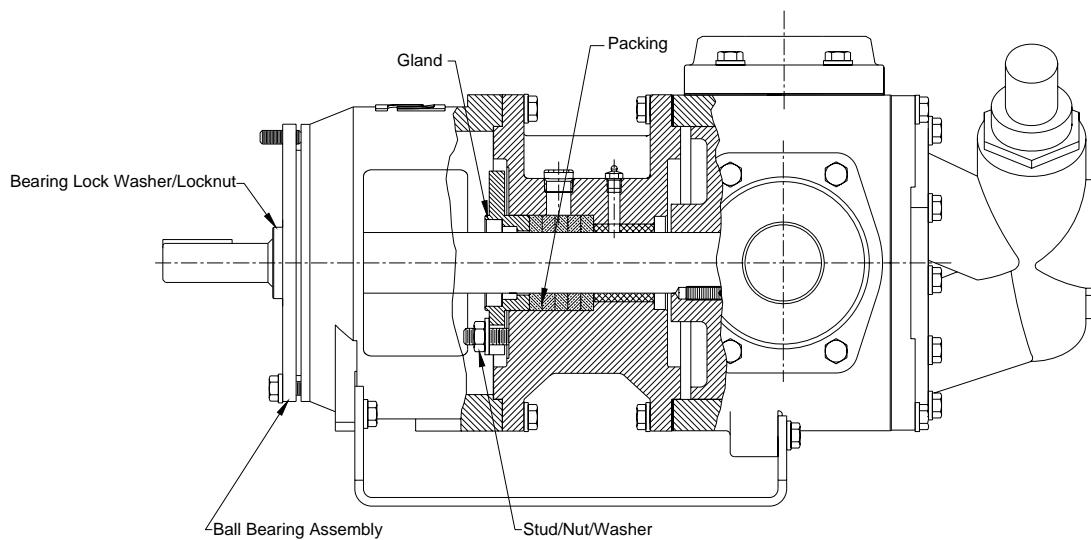

Figure 6 – Pump with Packing
A. Pumps with packing (see Figure 6):